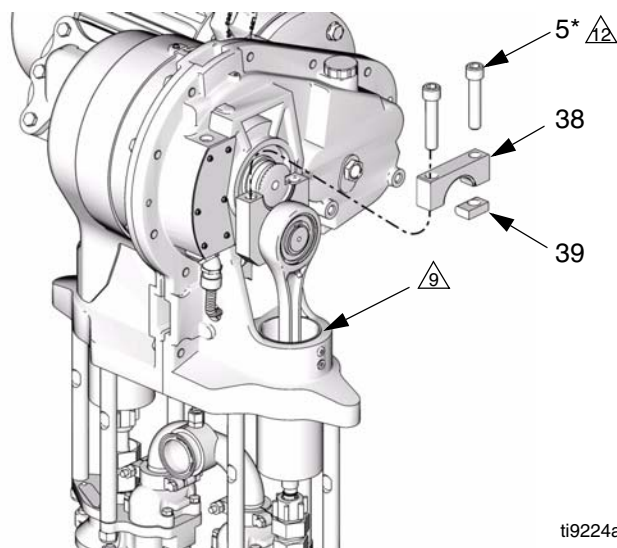

FIG. 7. Install Crank Arm Cap
5. Slide the piston (9) and connecting rod (7) into the cylinder (2).
6. Position the crank arm (4) to engage the output shaft (OS), and rotate it to the bottom of the output shaft.
7. Place a clean rag over the top of the slider cylinder (2) to prevent debris from falling into the slider assembly during reassembly.
8. See FIG. 7. Apply antiseize lubricant to the threads of the cap screws (5*). Install the key (39), crank arm cap (38), and cap screws (5*), oriented as shown. While the gap-side screw is still loose, torque the key-side screw to 210-230 ft-lb (283-310 N•m). Then torque the gap-side screw to 210-230 ft-lb (283-310 N•m).
- △₉ Place clean rag over slider cylinder (2).
- △₁₂ Apply antiseize lubricant to screw (5) threads. Torque key-side screw to 210-230 ft-lb (283-310 N•m) first, then torque gap side screw to 210-230 ft-lb (283-310 N•m).